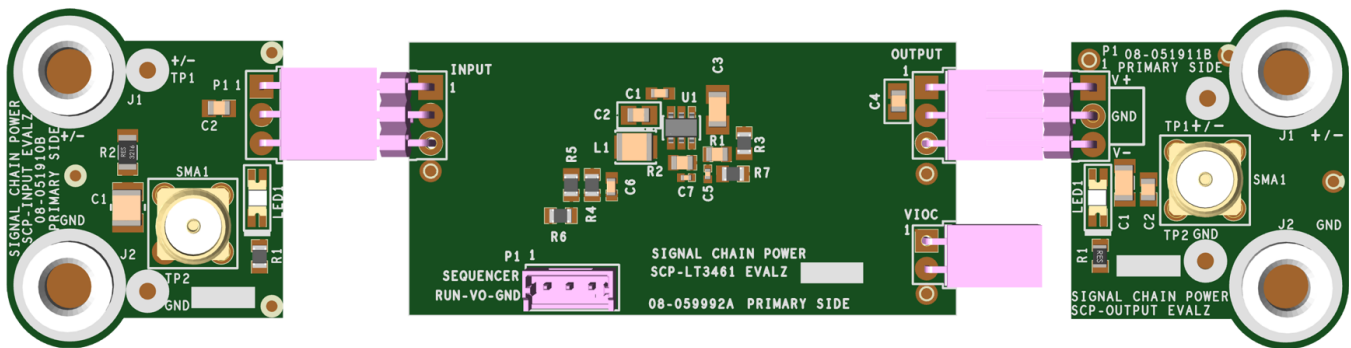

Figure 2. Proper Measurement Equipment Setup (Use SMA connectors for Measuring Input or Output Ripple)
2. Connect the SCP-INPUT-EVALZ and SCP-OUTPUT-EVALZ boards to the SCP-LT3461-EVALZ (refer to Figure 2) and connect the input board to a voltage source, V_{SOURCE} . Connect the output board to a voltmeter or dynamic load. Slowly raise the input voltage until the SCP-LT3461-EVALZ powers up into regulation and sweep V_{SOURCE} through the desired range of operation.